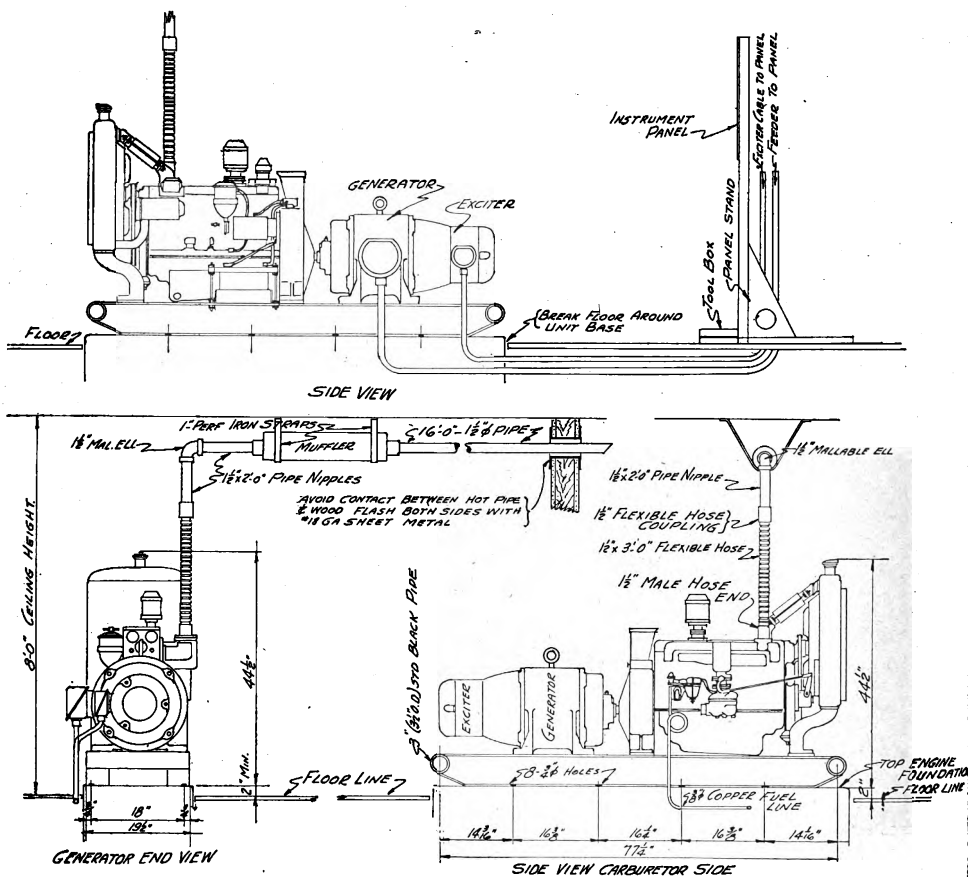

Figure 6. Typical installation of unit in building.
(1) **SPACE REQUIRED** (fig. 6). Locate the power unit so that at least 3 feet of space is provided between the nearest wall and engine. Less space will cramp the personnel performing maintenance on the wall side of the unit. Arrange the unit so that the radiator front is near a wall, thus making possible the use of the canvas duct, one end of which is attached to the angle frame on the radiator front, and the other end to a suitable opening in the wall. Avoid any bends. The ceiling height should be about 8 feet to permit the proper installation of the exhaust pipe and muffler.
(2) **FOUNDATION.** Construct a concrete or timber base extending about 2 inches above the floor level. Shock absorbing material may be used between the skid base and the foundation. The power unit must be level. Place the foundation bolts at the required points as shown in figure 6. Do not tighten the bolts until the cement is hard.
(4) **FUEL SYSTEM.** Connect the 6-inch length of the flexible gasoline tube to the fuel pump inlet (fig. 6). Connect the  $\frac{3}{8}$ -inch copper tubing from the end of the flexible tube to the gas tank which is located at a point not more than 20 feet away from the power unit. Avoid using more than the 20 feet of copper tubing supplied with the unit. The fuel pump may not be able to pump the fuel with sufficient pressure if the line is longer than 20 feet, or if the fuel tank is too far below the level of the pump. Install the fuel tank as far from the exhaust outlet as possible. Be sure the tank is vented properly by maintaining a hole in the filler cap or by providing a vent pipe. Keep the gas line at least 1 inch from the bottom of the tank.